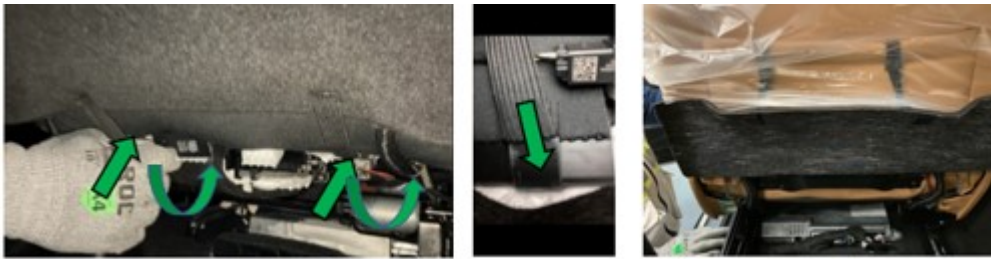

Fig. 2
4. Disconnect the two bungee straps from toe kick (Fig. 2) . Straps may be fastened out of the way to the seat back pocket while working (Fig. 2) .
- 13. Connect the two bungee straps on toe kick (Fig. 2) .